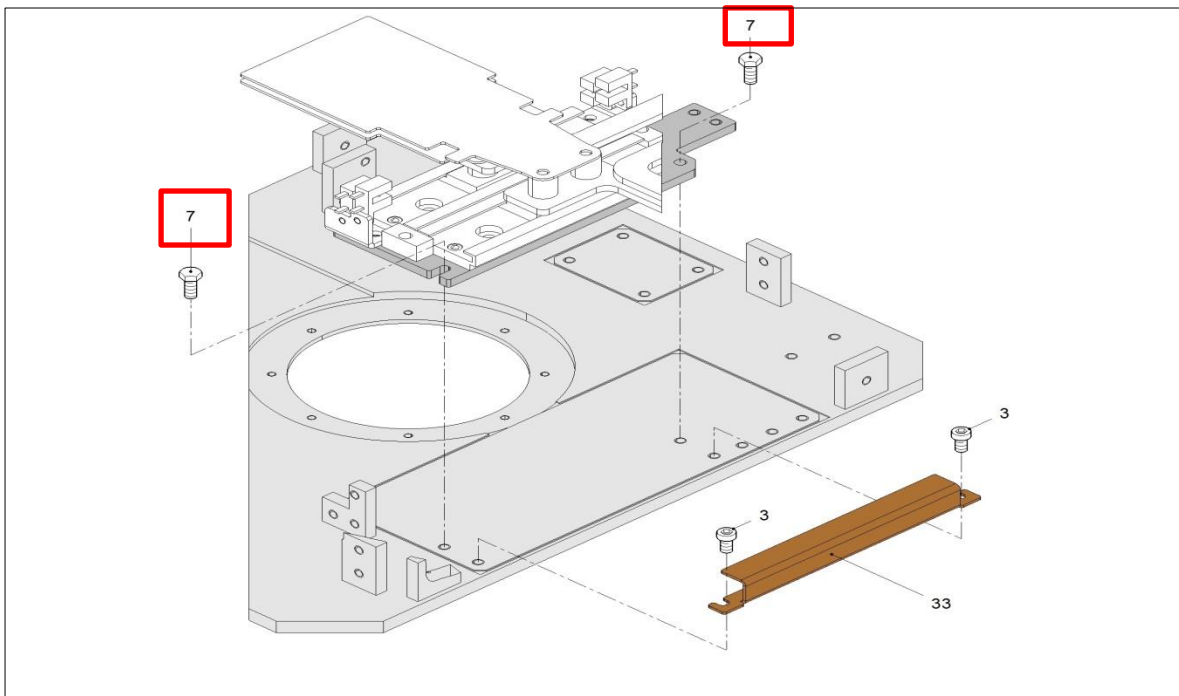

Fig 3
4. Remove screws n.7 shown in fig. 3